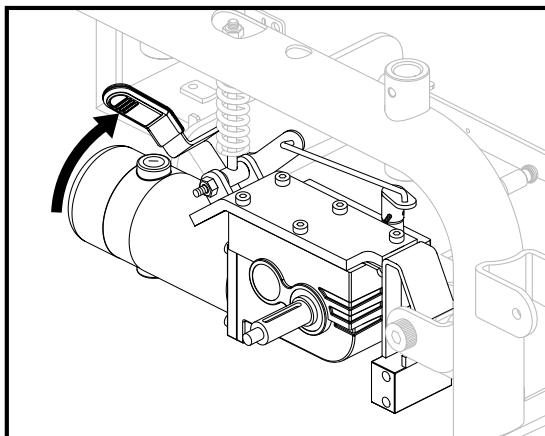

Figure 6. Freewheel Mode (Drive Disengaged)
1. Pull up the manual freewheel lever on each motor for freewheel mode (drive disengaged). See figure 6.